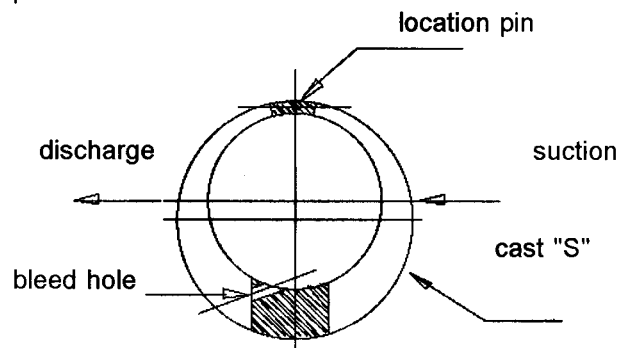

Figure 7
7. Fit Spacer (205) to Shaft and locate against shoulder, with chamfer facing downwards (towards Rotor).
8. Ensure Bearing Clamp Bolt Assembly (600) is in position.
9. Fit Bearing (204) into Housing via pressure applied to inner ring of Ballrace until it locates against Spacer.
10. Lock Bearing Clamp Bolt Assembly (600).
11. Fit Liner (101) to Body (100) with bleed hole to pump discharge and thick section to bottom of pump. Refer Fig.7. Leave Liner protruding about 10mm from drive end. With cast "S" towards suction port.